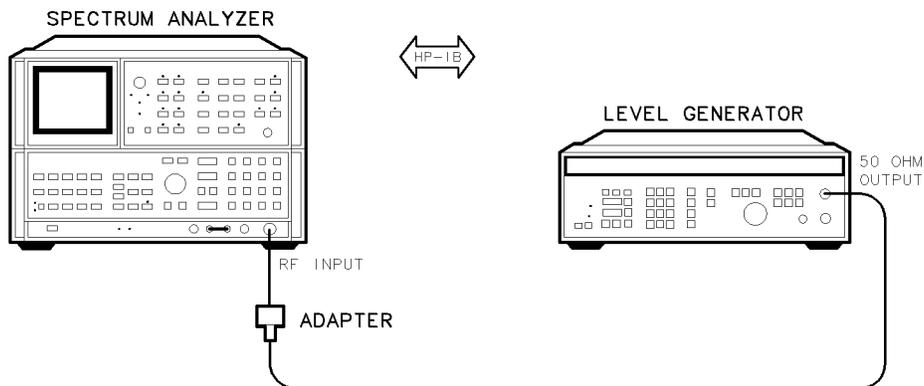

Figure 8-6. IF Calibration Test Setup
2. **IF Calibration** characterizes spectrum analyzer error in step gain, log fidelity, frequency, and resolution bandwidth-filter-switching amplitude. All measurements are normalized to a 10 kHz resolution bandwidth setting. Figure 8-6 shows the required calibration setup.